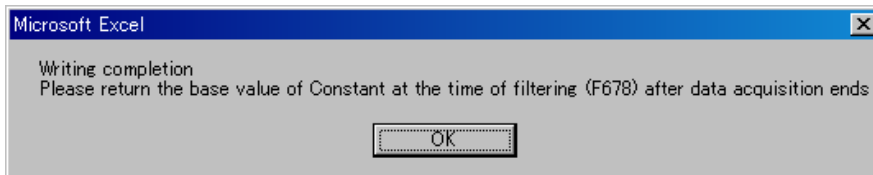

Fig. 9 Confirmation of setting
*6 If you select [Recommended value of constant at the time of filtering is set by the automatic set up.] and [The constant at the time of filtering is arbitrarily set.] to write the set values, the message “Export completion. Please return the base value of Constant at the time of filtering (F678) after data acquisition ends” (Fig. 9) will soon appear.